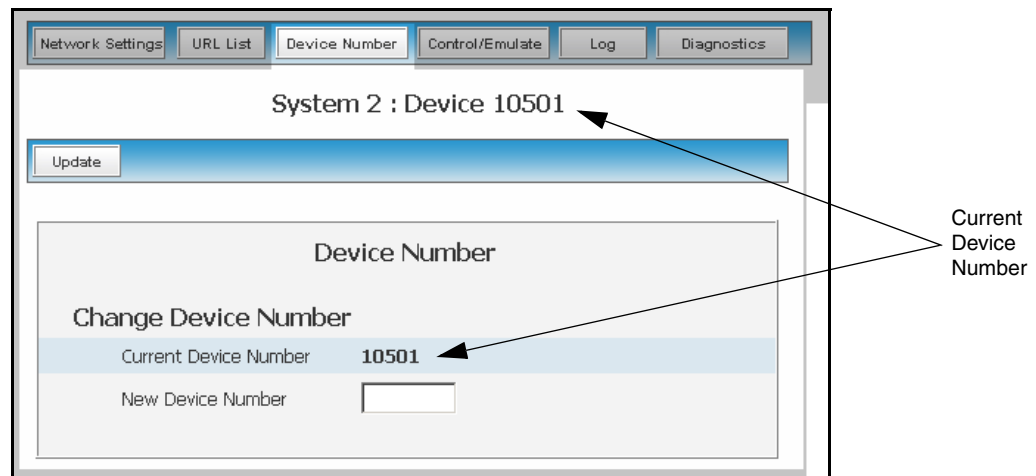

FIG. 62 Device Number dialog
3. Click the **Device Number** button to open the Device Number (FIG. 62). This dialog allows the user to change the device number for the selected device.